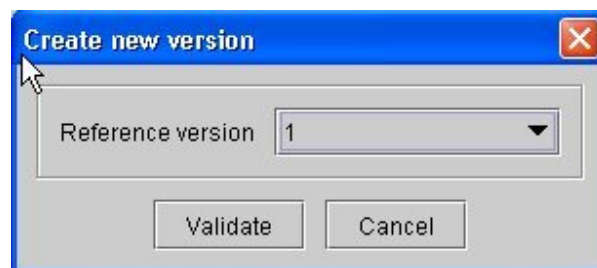

Figure 69 : Selection of the reference version
- A dialog box appears (Figure 69) asking for the reference version from which the new version will be created (the possible versions are already listed in the combo box).